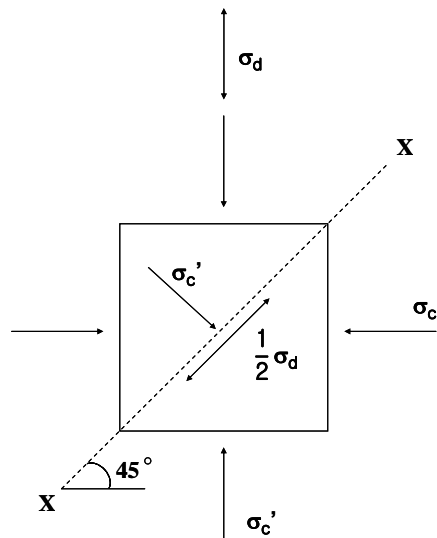

Fig. 2 Cyclic stress ratio
- Represent the ratio of shear stress ($\sigma_d/2$) to normal stress (σ_c') on the plane X-X (Fig. 2)